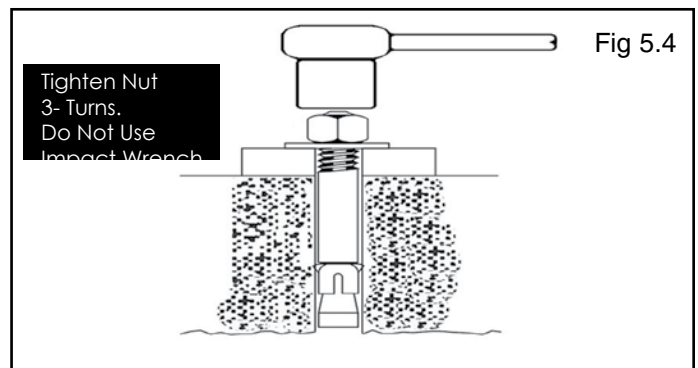

Fig 5.4
6. With the shims and Anchor Bolts in place, tighten by securing the Nut to the base then turning 3-5 full turns clockwise. **DO NOT** use an impact wrench for this procedure. (See Fig. 5.4)